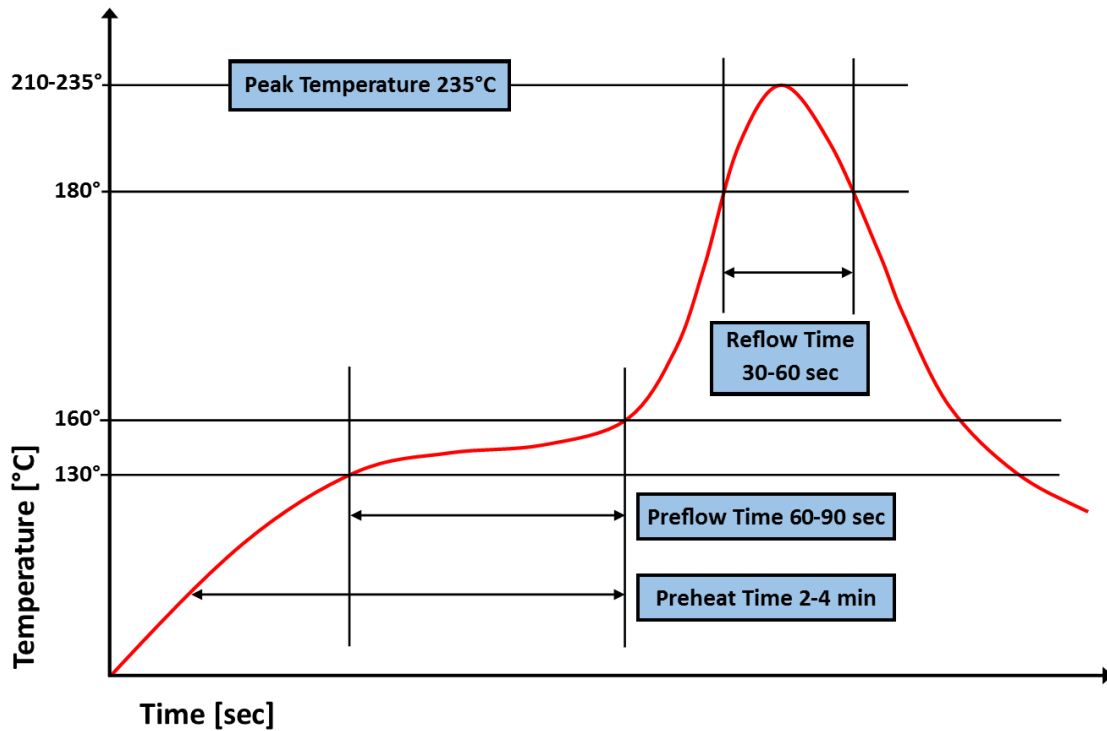

Figure 5 – Low Temperature Solder Reflow Thermal Profile
**Reflow:** The surface mount coupler is conducive to most of today's conventional reflow methods. A low and high temperature thermal reflow profile are shown in Figures 5 and 6, respectively. Manual soldering of these components can be done with conventional surface mount non-contact hot air soldering tools. Board pre-heating is highly recommended for these selective hot air soldering methods. Manual soldering with conventional irons should be avoided.